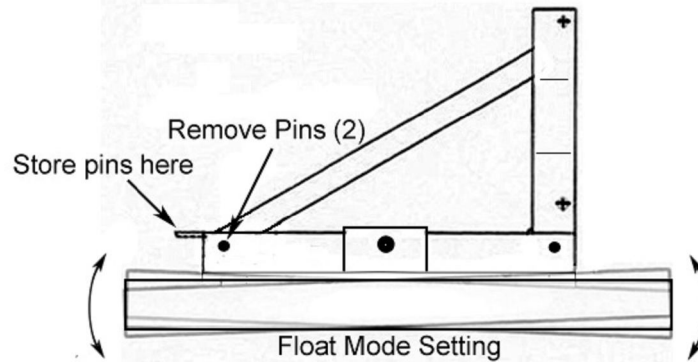

fig 2.
5. **Tip 2:** The scraper can be set in “float” mode or “rigid” mode. The scraper, as shipped, is set, by default, in rigid mode. To set in “float” mode pull the 2 clips from the silver pins on the rear of the frame. The top rear angle is pre-drilled for you to store these pins in when set in float mode. Float mode allows the unit to maintain level even though the tractor may be pitching up and down.(fig 2.)